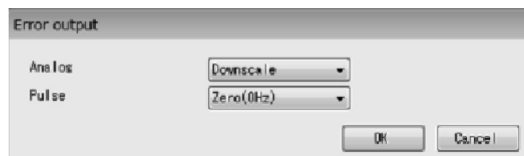

Fig.49
- ① Click the "Setup (S)" menu, and then select and click "Error output" from the "Outputs" drop-down list.
- ② The following window will be displayed (Fig. 49). Set the analog and pulse output level for when errors occur here.